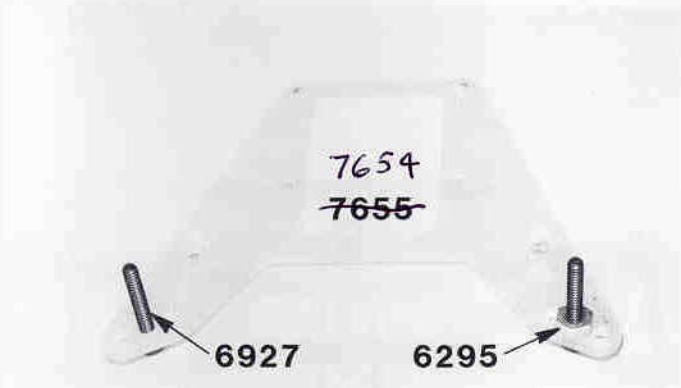

Fig. 115
□ **Fig. 115** From bag #7-4 again remove the #7655 rear fiberglass shock strut. Now open up bag #7-9, the rear shock bag, and remove two #6927 4-40 x 3/4" SHCScrews and two #6295 4-40 plain nuts. There are three holes at the top of the shock strut. Thread the two #6927 bolts into the middle hole and then thread on the two 4-40 nuts and tighten.